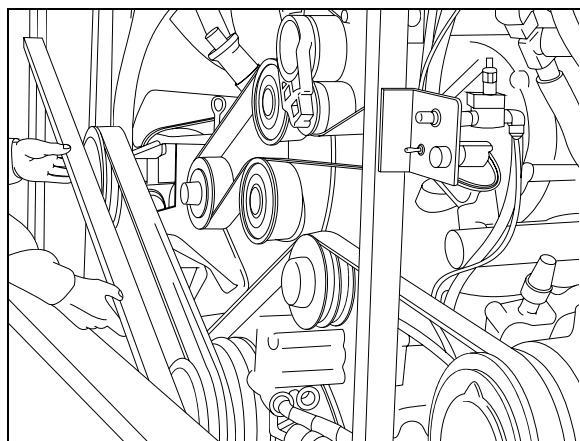

FIGURE 19: PULLEYS ALIGNMENT
- Using a straight edge, align the 3"V"pulley on gearbox central shaft pulley with engine pulley, while taking pulleys outer edge thickness under consideration i.e. 3"V"pulley's outer edge is thicker than that of engine pulley's (Fig. 19).